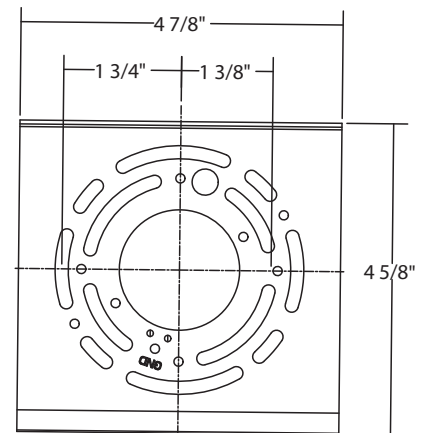

Fig.4
8. To prevent moisture from entering the outlet box and causing a short, use clear caulking (i.e. indoor/outdoor silicone sealant) to outline the outside of fixture canopy where it meets the wall. (Fig.4)